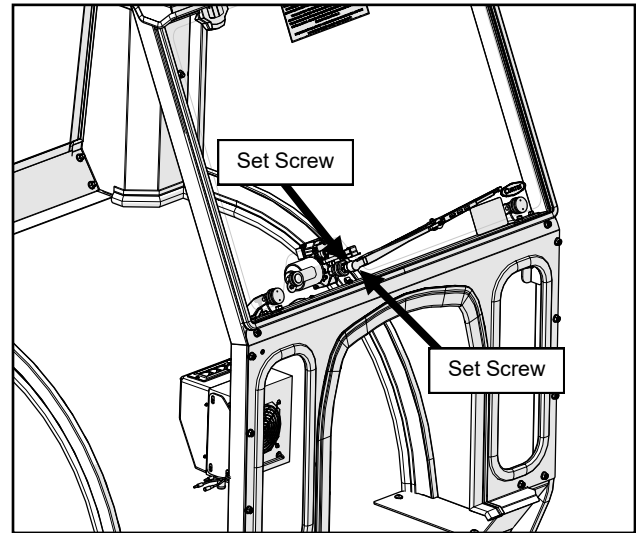

Fig. 17.3 (Wiper Arm and Blade)
**17.3** Install the wiper arm onto the wiper motor so that the wiper is horizontal. See Figure 17.3. Tighten the Allen Screws.